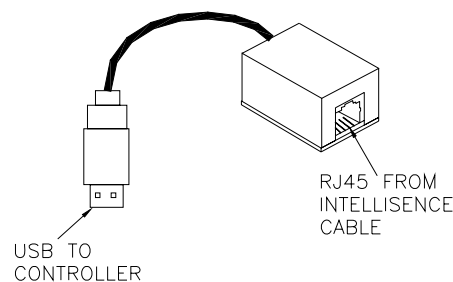

Fig. 7 USB to RJ45 Adapter
- Remember that if you have a CAT 5E cable, a **USB to RJ45 Adapter** (Fig. 7) must be used to convert the cable to USB.